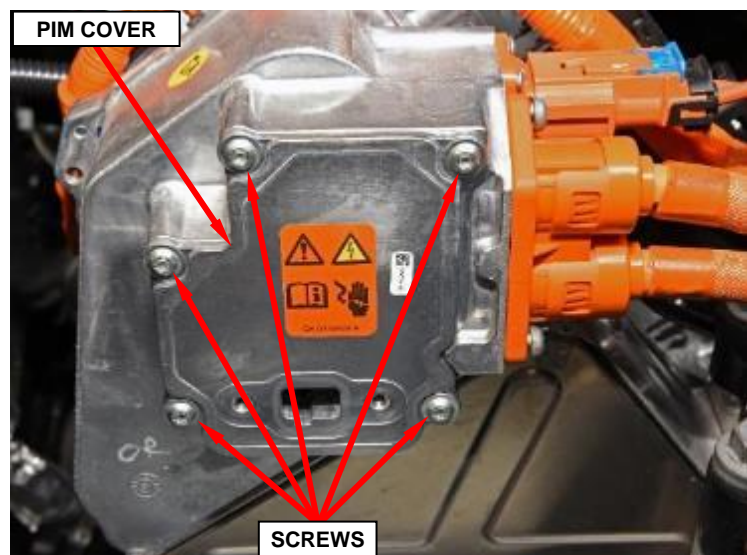

Figure 14 – PIM cover
22. Loosen five captive screws then remove and save the PIM cover (Figure 14).